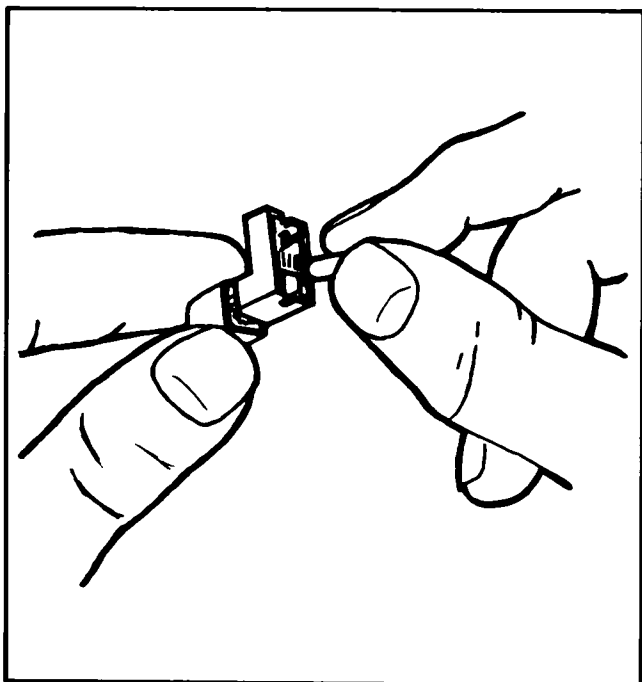

Figure 8-15. Inserting Tubing Into Switch Plunger.
- g. Insert tubing (or rolled paper) into bottom of plunger of new switch (see Figure 8-15).